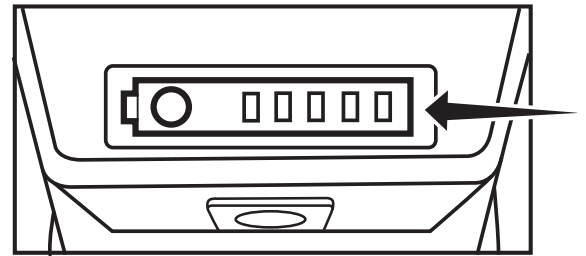

Fig. 3
- When the battery is fully charged there will be four (4) green lights and one (1) red light showing (Fig. 3).
- As the battery is discharged, during use, the number of green lights showing will reduce from four (4) to none (0).